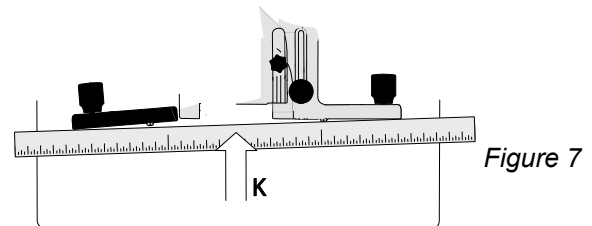
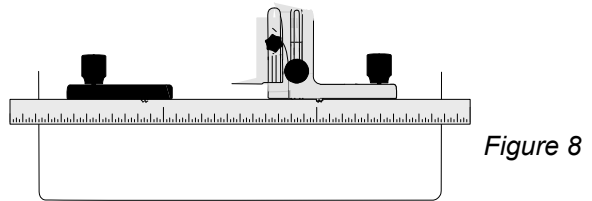
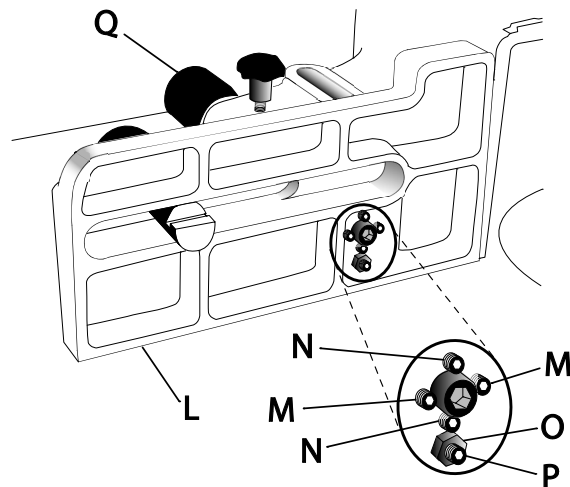

Figure 7
Figure 8
Figure 9
6. Remove both fences (J_1 , J_2) and place the straightedge against the infeed and outfeed fence castings (Figure 7).
7. Maintain steady pressure of the straightedge against the fence castings (K, Fig. 7). At the same time, attempt to bring both fences into alignment as shown in Figure 8. This is accomplished by alternately making incremental adjustments to two setscrews (M, Fig. 9) on the front face of the casting (L, Fig. 9) with a 3mm hex wrench, followed by repositioning the casting with the ram adjust dial (Q, Fig. 9) as required.
Important: It is recommended that the adjustment setscrews (M, Fig. 9) be rotated in 1/16th increments or less at a time.
- Place a square against the *casting* (L, Fig. 9) and table.
- If adjustment is required, adjust *setscrews* (N, Fig. 9).
Alignment is complete when both fence castings are coplanar (in-line) as shown in Figure 8 and the outfeed fence is perpendicular to the table.
- Using a 10mm wrench, loosen the *lock nut* (O, Fig. 9) that secures the *zero stop set-screw* (P, Fig. 9) on the *casting* (L, Fig. 9).
- Loosen or tighten the *setscrew* (P, Fig. 9), as required, to bring fence castings into alignment as shown in M.
- Tighten *lock nut* (O, Fig. 9).